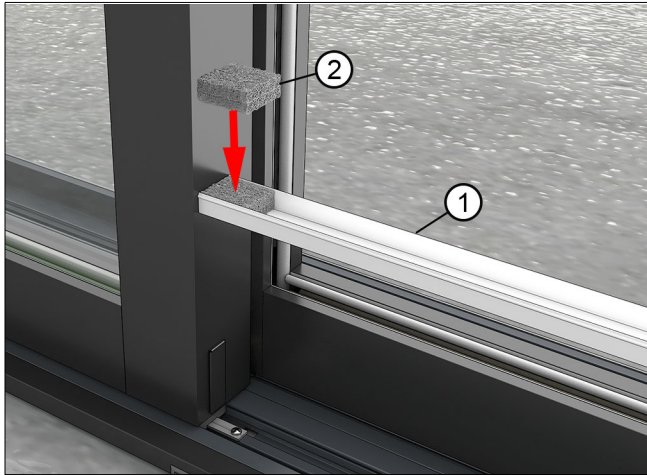

Figure 105 Uni-directional shown
1. Where a cover meets a panel, insert a sill drain filter in the end of the cover before installing it in the sill. See Figure 105.